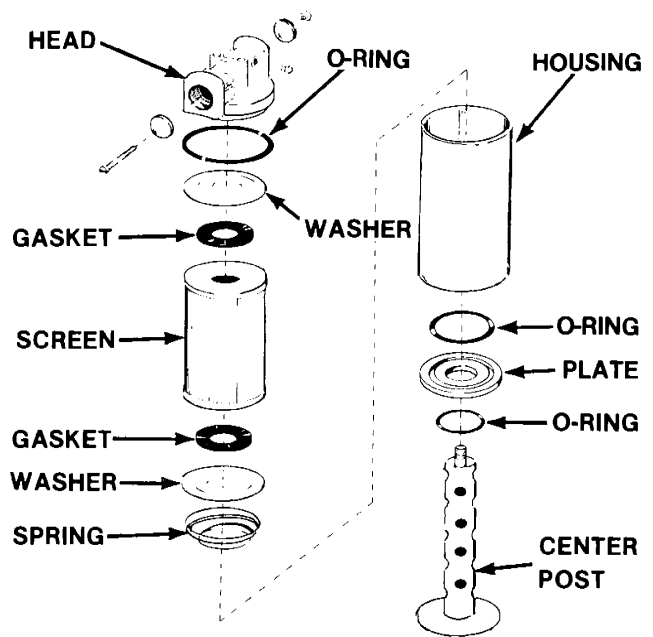

Figure 21. Screen Filter - Machines through PIN 6270854
- c. Install new seals and assemble the filter as shown in figure 21.